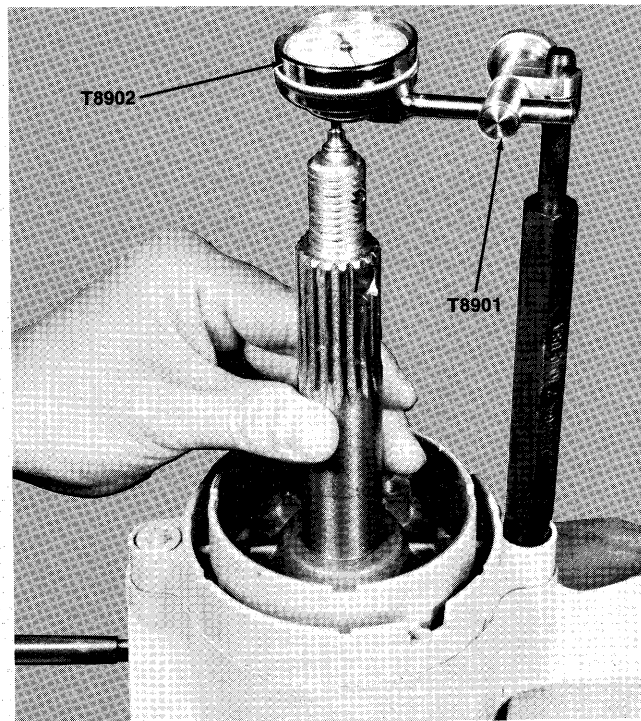

Figure 27—Checking Propeller Shaft End Float
- I. Lift propeller shaft up and read total indicated movement of needle as shown in figure 27. This reading is the total propeller shaft end float. Propeller shaft end float should be $.005" \pm .001"$.